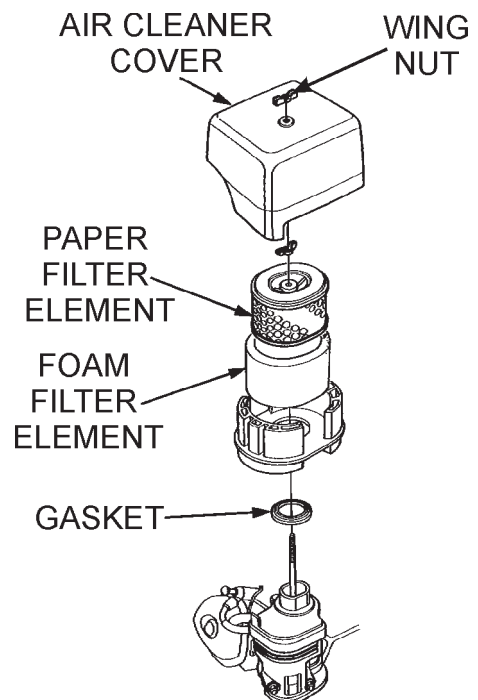

Figure 34. Engine Air Cleaner
1. Remove the air cleaner cover and foam filter element as shown in Figure 34.
2. Tap the paper filter element (Figure 34) several times on a hard surface to remove dirt, or blow compressed air [not exceeding 30 psi (207 kPa, 2.1 kgf/cm2)] through the filter element from the air cleaner case side. **NEVER** brush off dirt. Brushing will force dirt into the fibers. Replace the paper filter element if it is excessively dirty.